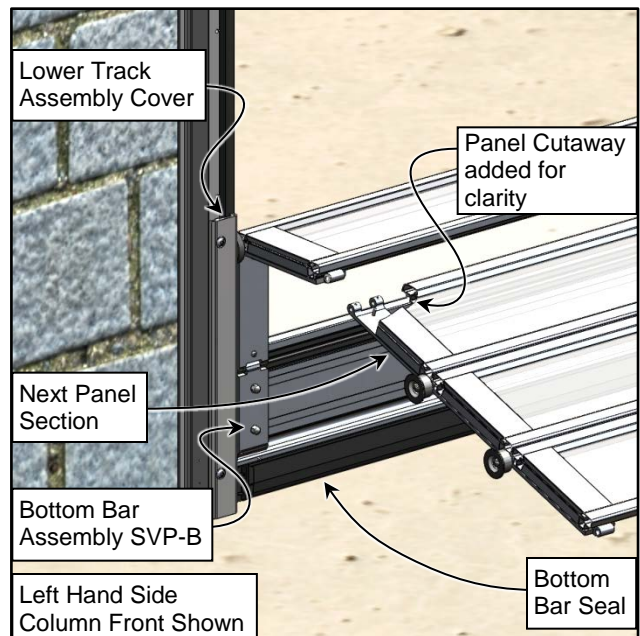
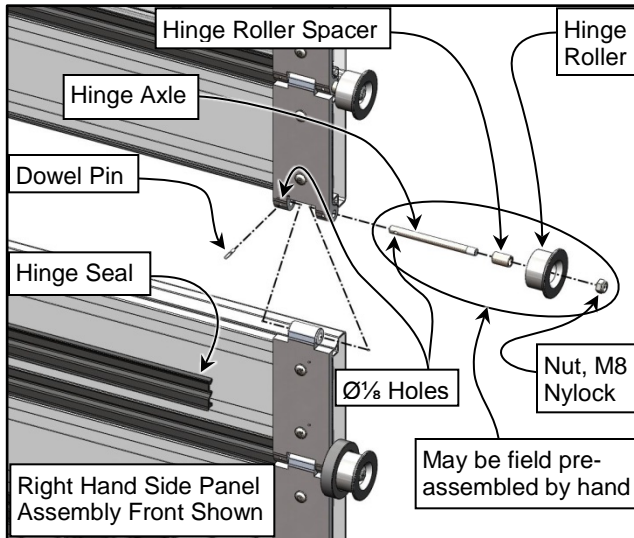
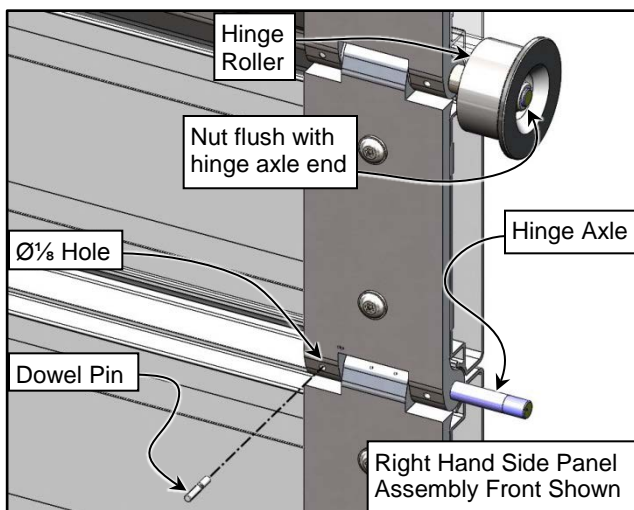

Figure 34
Figure 35
Figure 36
6. Allow the top panel section to lean back away from the door opening 90° from the panel assembly. (See Figure 34)
7. Locate and identify the next panel section assembly for the door panel assembly. It must be correctly marked with the next sequential number to the last installed panel section. Orient and mate the next panel section with the last installed panel section so the hinge assembly bracket holes are aligned as shown. (See Figure 34 & Figure 35)
- Once the hinges of the panel sections are aligned insert the hinge axles as shown. The threaded end must be on the outside of the panel and the through hole on the panel inside. You may want to pre-assemble the Axle, Spacer, Roller, & M8 Nut as shown. (See Figure 35)
- Align the small $\text{Ø}\frac{1}{8}$ hole in the hinge axle with the small holes through the inside ear of the hinge as shown. (See Figure 35 & Figure 36)
- Insert the dowel pin into the hole of the panel hinge, all the way through the hinge axle and hinge until the pin is flush on the near side. (See Figure 36)
- Install the Hinge Roller Spacer onto the Hinge Axle. (See Figure 35)
- Install the Hinge Roller onto the Hinge Axle as shown. (See Figure 35 and Figure 36)
- Install the Nut onto the Hinge Axle as shown. Turn the nut on until the axle end is flush with the end of the nut. It should be tight enough to hold the axle in place. (See Figure 35 & Figure 36)